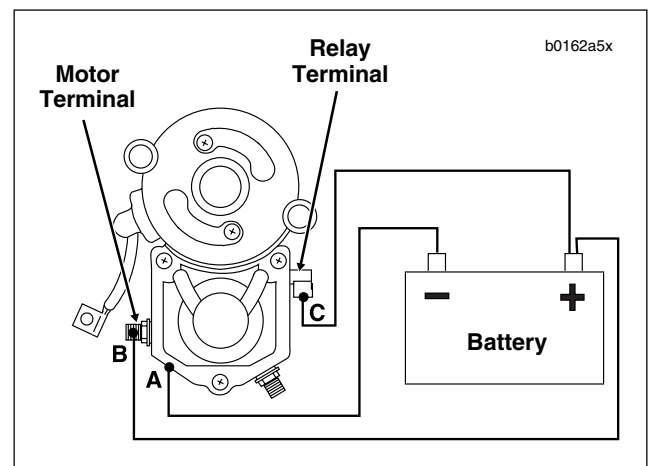

Figure 1-6. Test 2: Hold-In Test
1. See Figure 1-6. With test leads still connected in the manner specified in the previous **SOLENOID PULL-IN TEST**, disconnect solenoid motor terminal/battery negative test lead (B) at negative battery post only; reconnect loose end of this test lead to positive battery post instead.